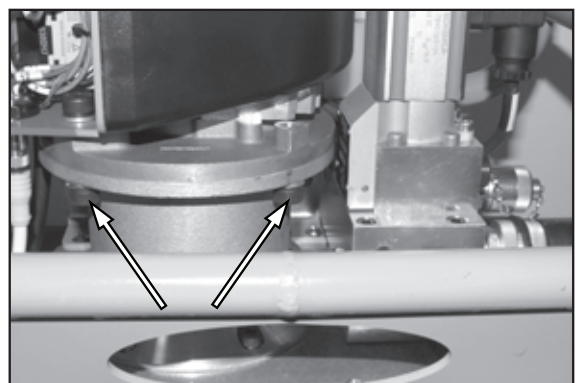

Figure 14.
3. See Figure 14. Remove the four motor bolts. (Two on each side.)